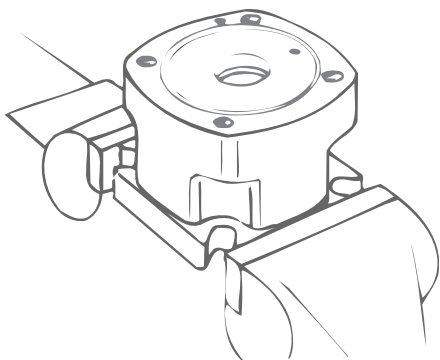

Figure 15
**28** Reposition motor in vise with output shaft down. Clamp across edges of retainer as shown in Fig. 15.